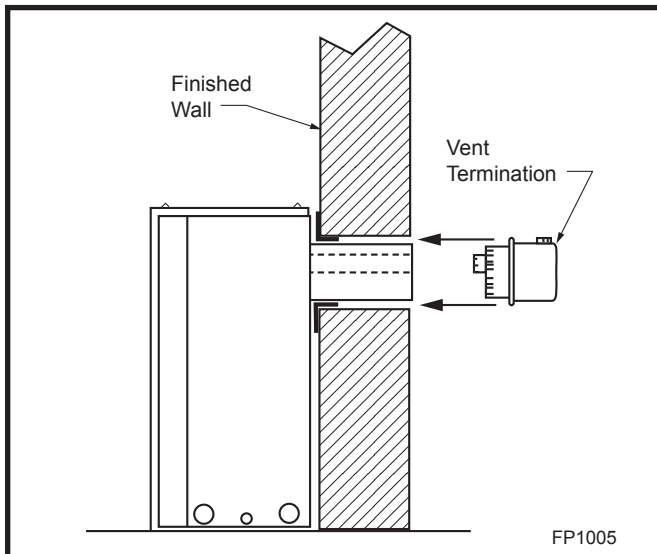

Fig. 23 Side view of final unit location.
Guide the venting through the vent hole as you place the appliance in its installed position. Guide the 4" (102 mm) and 7" (178 mm) collar of the vent termination into the outer ends of the venting. Do not force the termination. If the vent pipes do not align with the termination, remove and realign the venting at the appliance flue collars. (Fig. 23) Attach the termination to the wall as outlined in the instruction sheet supplied with the termination.
Install the four (4) spacer springs on the 4" flex vent pipe. When installing the spacer springs around the 4" pipe, stretch the spring to approximately 15" (381 mm), wrap the spring around the pipe and interlock the ends of the spacer spring approximately 2" (51 mm). (Fig. 23) Measure from 8" (203 mm) the end of the pipe. Place the next spring 8" (203 mm) from the previously